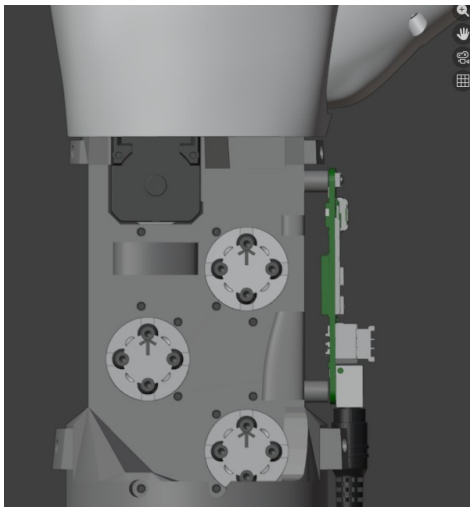

Figure 5.74: Skeleton - Rear lower cover area
3. Position the pins on one side of the rear cover onto the corresponding interlocking holes on the skeleton, snap them into place, then, while rotating the cover, snap the pins on the other side into place. See figures 5.74 and 5.75.